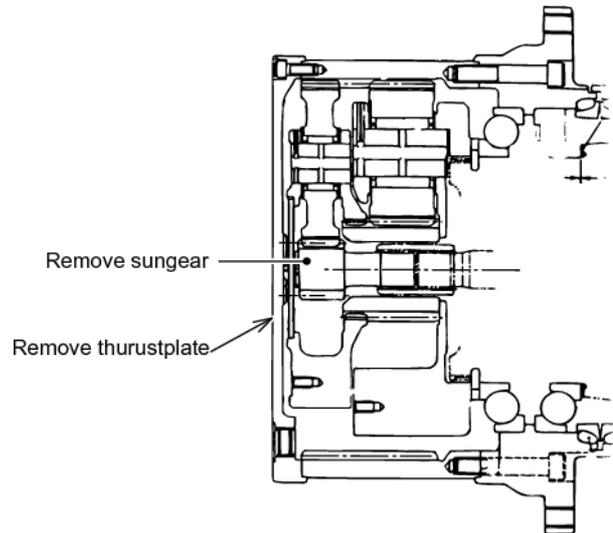

Fig. 8-7
12. Remove the thrust plate and sun gear. See Fig. 8-7.